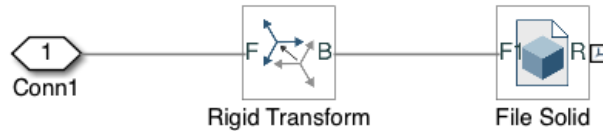

Figure 10: New Frame Connection in Simple Link Subsystem
17. We now need to establish the connection between the newly created frame on the dumbbell and the world frame block. In the “Simple Link” block diagram, delete the signal line between the “Rigid Transform” block and the “R” connection point on the “File Solid” block. Then establish a connection between the “Rigid Transform” block and the “F1” connection point on the “File Solid” block. It should look as it does in figure 10.